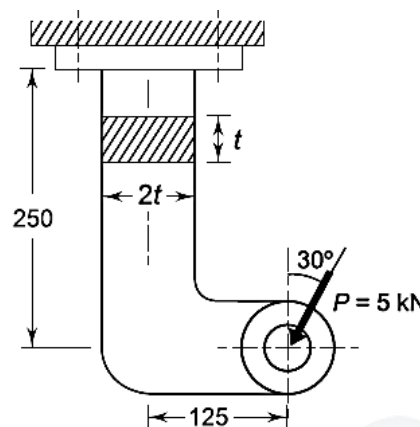

Figure: 5.4
7. A bracket, (Fig: 5.4) made of steel FeE 200 ( $S_{yt} = 200 \text{ N/mm}^2$ ) and subjected to a force of 5 kN acting at an angle of  $30^\circ$  to the vertical, is shown in Fig. The factor of safety is 4. Determine the dimensions of the cross-section of the bracket.